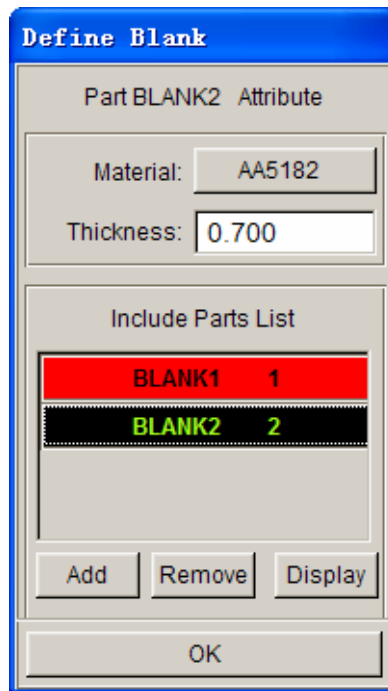

Figure 4.35: Define Blank dialog box
- 10) Repeat the steps above, assign the part of BLANK2 to the part corresponding to the sheet metal tool, and define the material type and property of that part. Wherein the material type is AA5182 type 36, the material property is blank2, and the thickness is 0.7 mm. See figure 4.35.